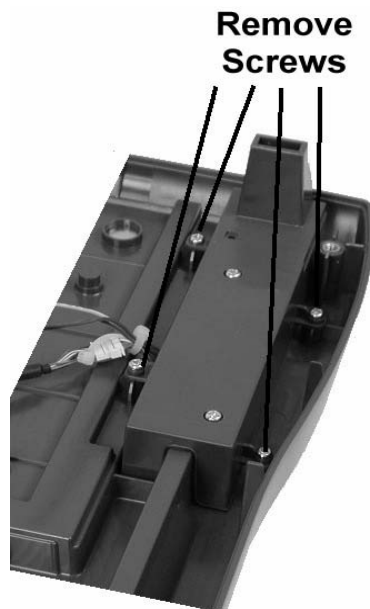

Figure 2-13: Removing the Mag Stripe Reader Housing
3. Refer to Figure 2-13 and remove the four screws that fasten the housing to the top cover.